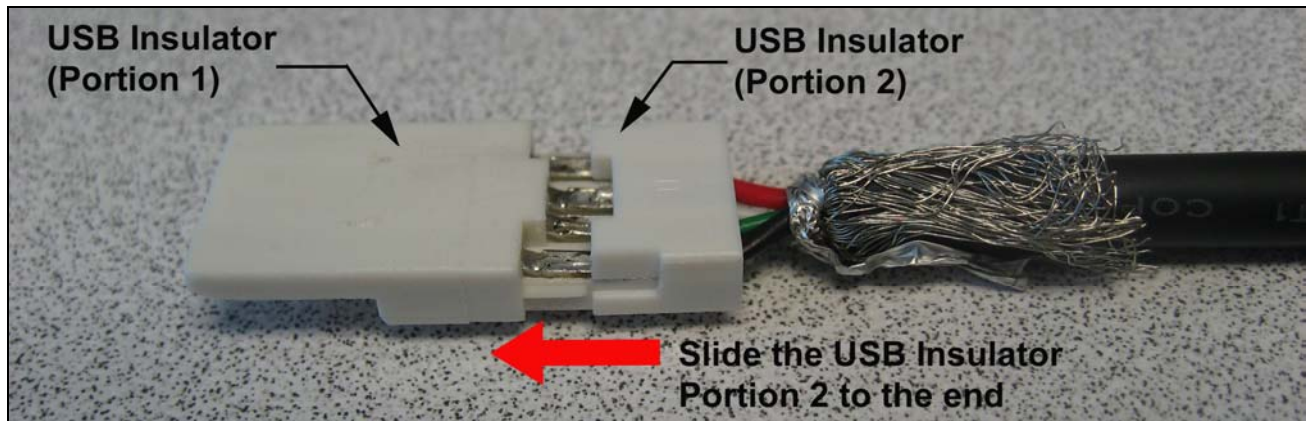

Figure 3-5: Assembly of the USB Insulator
Step 3: Slide the USB insulator portion 2 against portion 1. See Figure 3-5 for details.